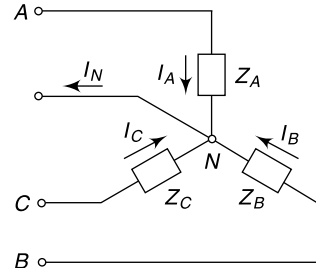

Fig. 4.18 Circuit of Ex. 4.21
Referring to Fig. 4.18
4.23 Figure 4.18 shows a three-phase load connected in star. Here $I_A = 20\angle100^\circ$ A and $I_B = 10\angle-50^\circ$ A. Find the voltage drops across the three impedances of Z_A , Z_B and Z_C where $Z_A = 6\angle0^\circ$, $Z_B = 6\angle30^\circ$ and $Z_C = 5\angle45^\circ$. Assume phasor sum of I_A , I_B and I_C as zero.